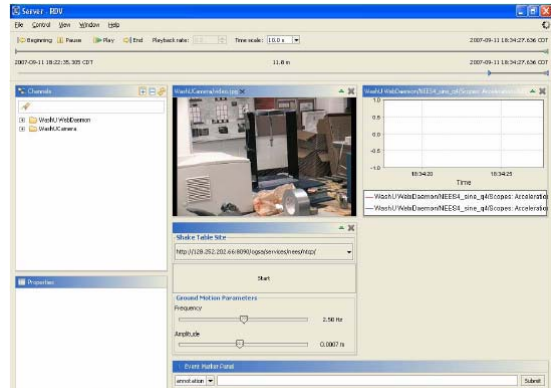

Figure 1 View of the RDV window in operation.
2. Click on “Click Here to Launch Experiment” and choose “Open.” A window containing Figure 1 will open, indicating everything is working properly.